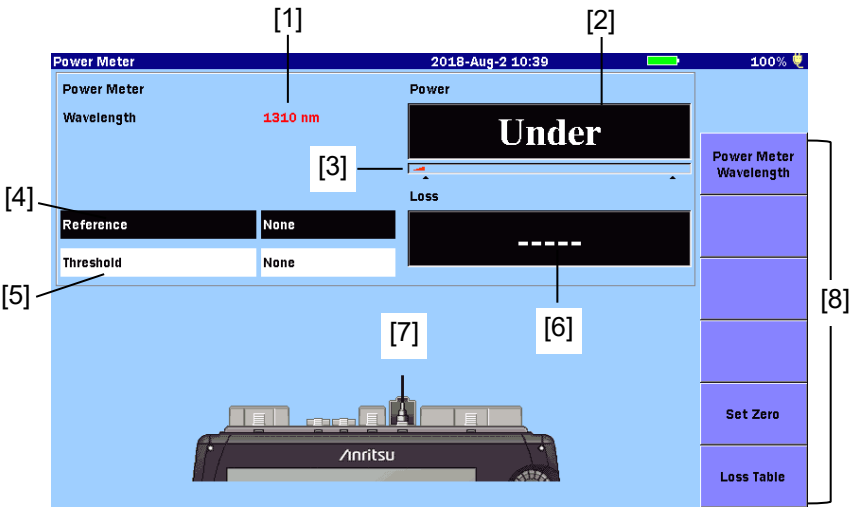

Figure 10.1.2-1 Power Meter Screen
2. Touch Set Zero on the Power Meter screen (Figure 10.1.2-1 “Power Meter Screen”). The following dialog box appears.
Displays the wavelength, modulation, reference value, and power level or loss set on the Power Meter Screen (Figure 10.1.2-1).
Touching this softkey goes back to the Power Meter screen (Figure 10.1.2-1 “Power Meter Screen”).